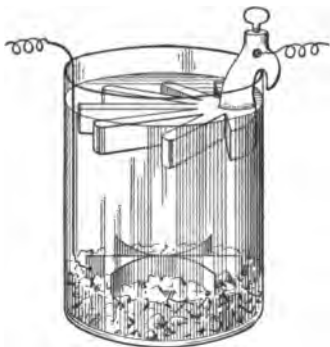

FIG. 182
**276. Gravity Cell.**—A cell of this sort (§ 275) is shown in Fig. 182. A large plate of *zinc* is used, being fastened to the top of the glass jar; the *copper* plate rests on the bottom. The weak solution of *copper*